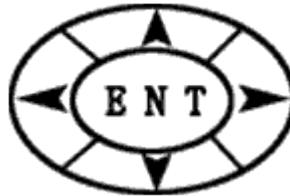

Figure 3-2-1
- As Figure 3-2-1 shown, Press " " to select the display modes.